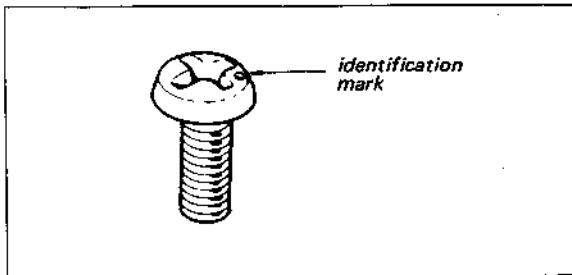

Fig. 2-1. ISO screw
**Note:** All screws in the HST-139 are manufactured to the specifications of International Organization for Standardization (ISO). This means that the new and old screws are not interchangeable because ISO screws have a different number of threads per mm compared to the old ones. The ISO screws have an identification mark on their heads as shown in Fig. 2-1.